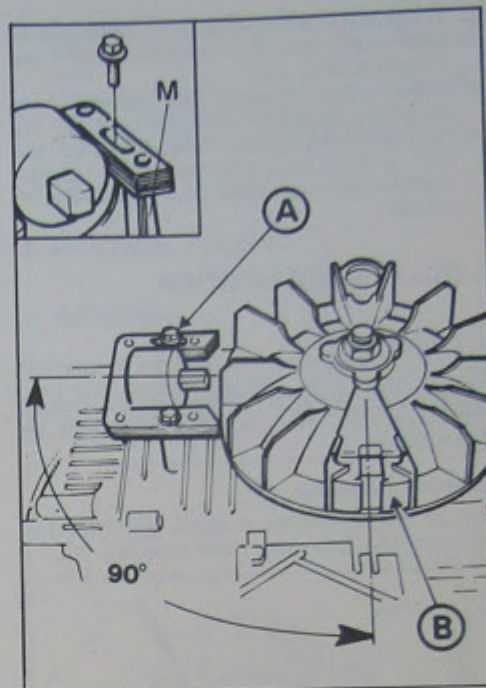

Fig. 26 First position for coil assembly
On this model the coil assembly is mounted on two pillars (M) cast on the cylinder (Fig. 26).
- Position flywheel magnets B as per Fig. 26.